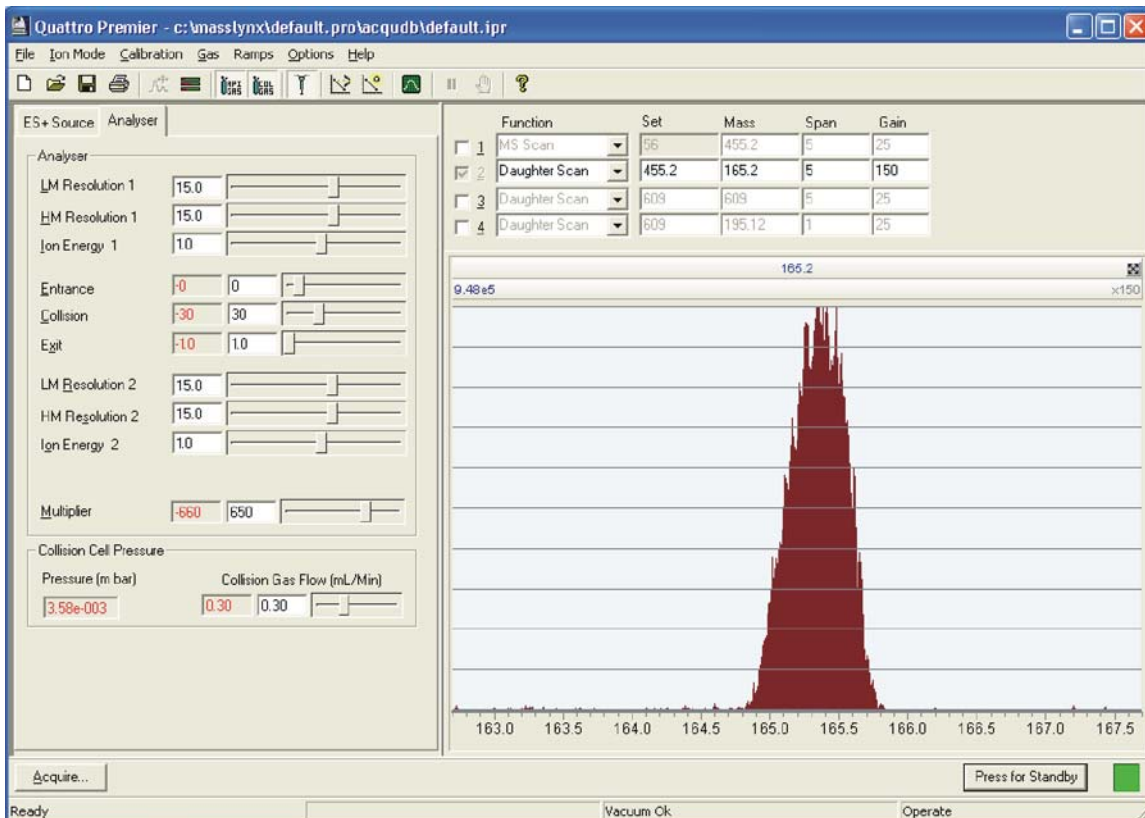

Figure 2-7 Tune Window with a Daughter Ion Peak
1. In the Tune window, select the Function 2 box. The Function 1 box may now be cleared (Figure 2-7).
12. In the Tune window, determine the m/z value of the daughter ion peak's center to one decimal place (see Figure 2-7). Record this value.